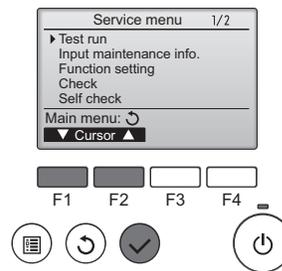

Fig. 9-1
- ① Select "Test run" from the Service menu, and press the [SELECT] button. (Fig. 9-1)